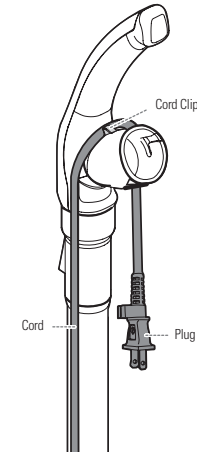

Fig. 18
- Wrap the cord around the cord storage hooks on the side of the body and hang the plug at the cord clip on the wand. (Fig. 18)